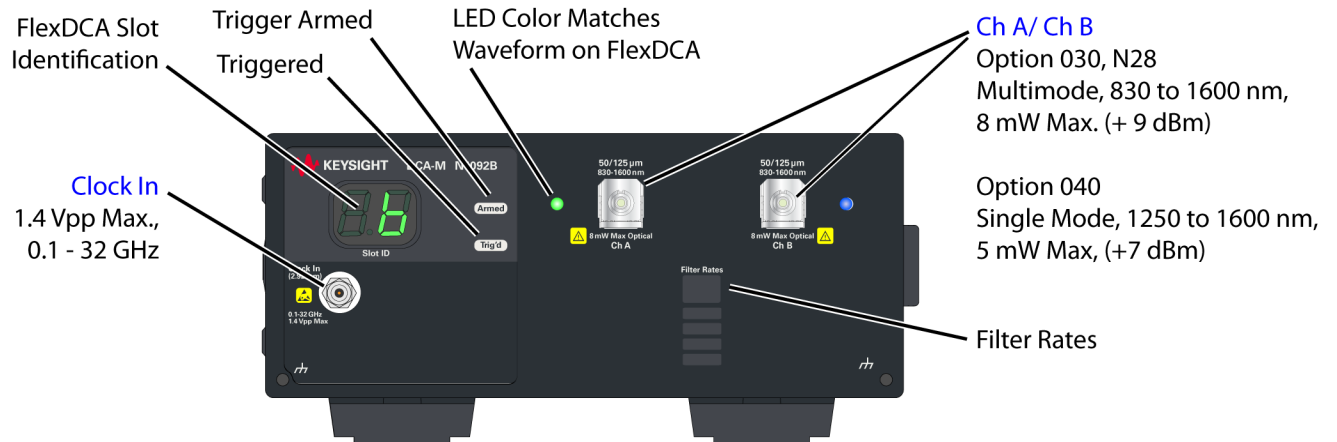

Figure 9. N1092B Front Panel
- *Figure 9, N1092B Front Panel*, on page 34